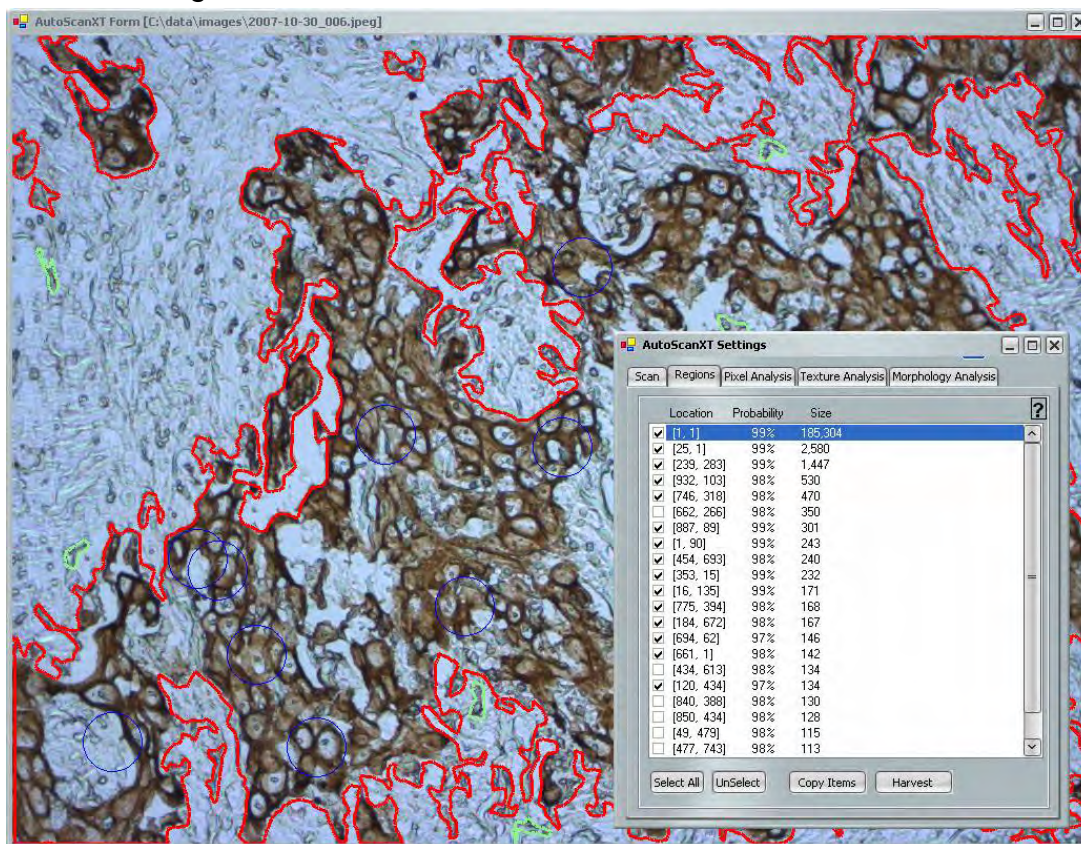

Figure 7. Selecting Items for Microdissection.
2. To select items for microdissection, you may either click on a ROI object in the static image or check the box next to the item in the regions list (Figure 7).
- a. Click the "Copy Items" button (Figure 7).
- a. Click the “Harvest Button” located on the Regions List tab (Figure 7).